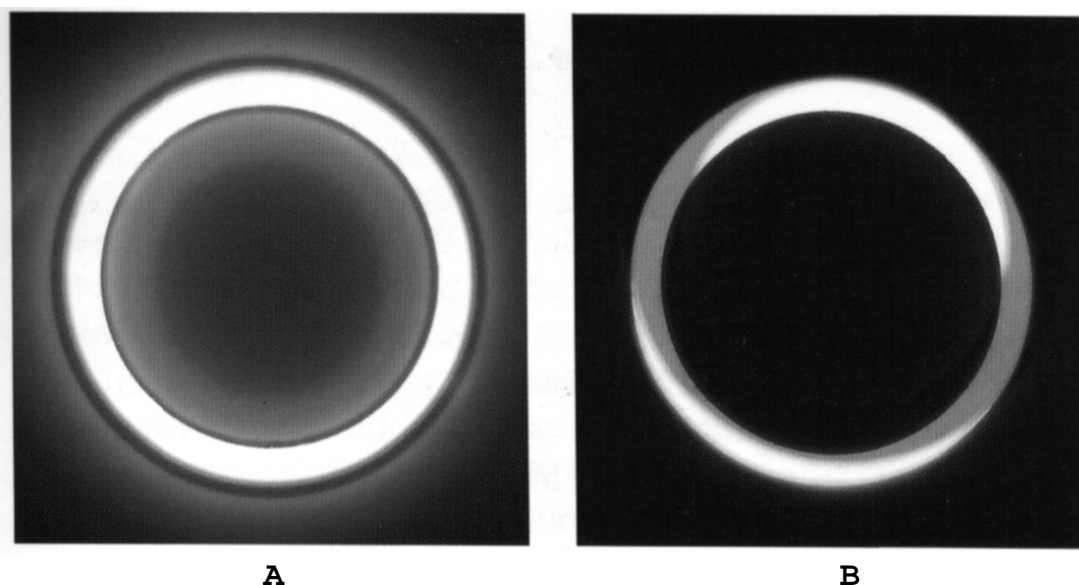

Figure 3
Phase contrast is a technique used to amplify contrast in unstained samples. To be able to see objects with phase contrast the optional phase kit is required. This includes a phase turret condenser (see figure 2), phase objectives, a centering telescope and a green filter. Firstly the standard condenser must be removed by loosening the retaining screw and the phase turret condenser installed in its place. Swap the standard objectives (if you have them) for phase contrast objectives, these are engraved PH, and select the correct condenser position (0 for brightfield, 10 for the 10x objective, 20 for the 20x objective etc.) Follow the steps in section 7 to ensure that Köhler illumination is set up properly. Remove an eyepiece and insert the centering telescope, this allows you to focus on the phase rings and make adjustments to their alignment. The two rings, one bright, one dark should overlap perfectly (A), if not (B) then their position relative to one another should be adjusted using the centration screws at the rear of the condenser (Figure 3).